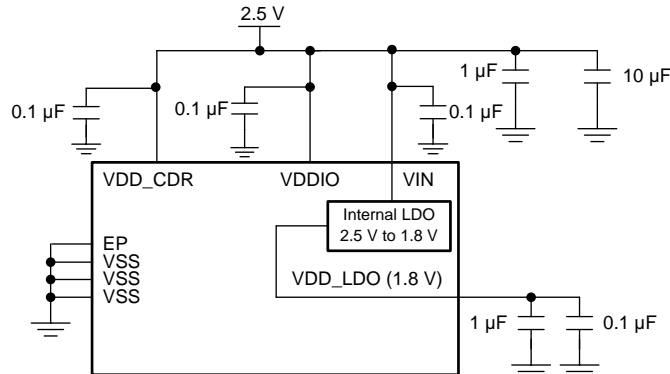
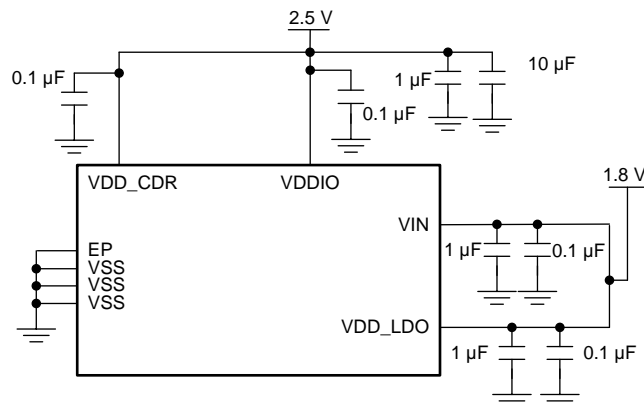

Figure 27. Typical Connection for Single 2.5 V Supply
Figure 28. Typical Connection for Dual 2.5 V and 1.8 V Supply
The LMH1226 is pin compatible with LMH1219 (12G UHD cable equalizer with integrated reclocker). Both LMH1219 and LMH1226 devices support Single Supply Mode and Dual Supply Mode as shown in Figure 27 and Figure 28, respectively.
- **Single Supply Mode (2.5 V):** This mode offers ease of use, with the internal circuitry receiving power from the on-chip 1.8 V regulator. In this mode, 2.5 V is applied to VDD_CDR, VIN, and VDDIO. See Figure 27 for more details.
- **Dual Supply Mode (2.5 V and 1.8 V):** This mode provides lower power consumption. In this mode, 1.8 V is connected to both VIN and VDD_LDO. VDD_CDR, and VDDIO are powered from a 2.5 V supply. See Figure 28 for more details.